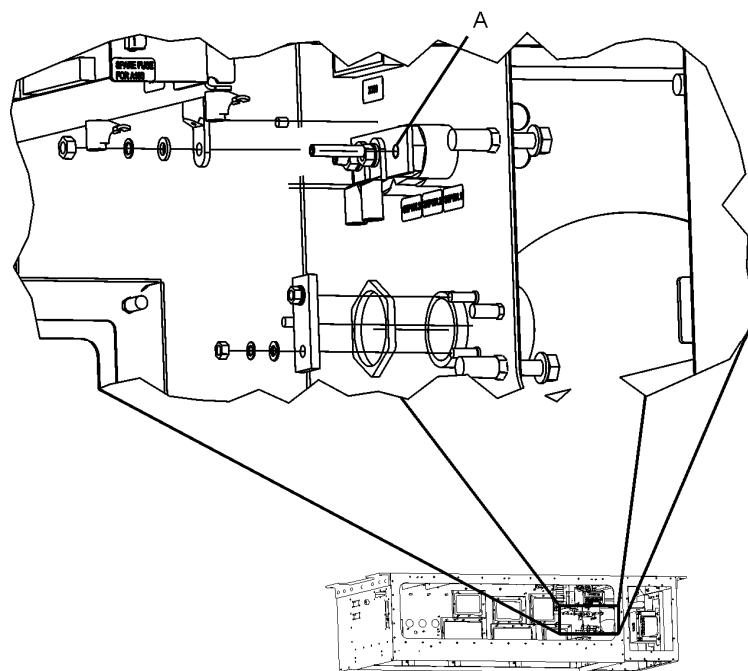

Figure 5-14: L107 Electrical Connections on STP101.1
- a. Disconnect cable at STP101.1 (see Figure 5-14). Two cables lead in from the X101 Input Terminal and make a total of three turns through the L107 Choke before leading to their termination points. One cable terminates at STP101.1 (A) and is fastened with M6 nut, M6 Schnorr washer and M6 washer. Remove these fasteners and disconnect the choke from STP101.1.
- b. Connect cable at STP101.1 (see Figure 5-14). Two cables lead in from the X101 Input Terminal and make a total of three turns through the L107 Choke before leading to their termination points. One cable terminates at STP101.1 (A) and is fastened with M6 nut, M6 Schnorr washer and M6 washer. Connect the cable and affix these fasteners to STP101.1.